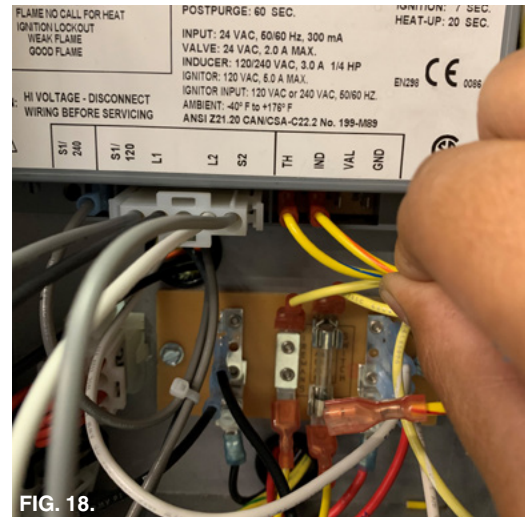

FIG. 18.
14. Connect the Orange/Yellow wire to IND ¼" tab at ICM. (Fig. 18)